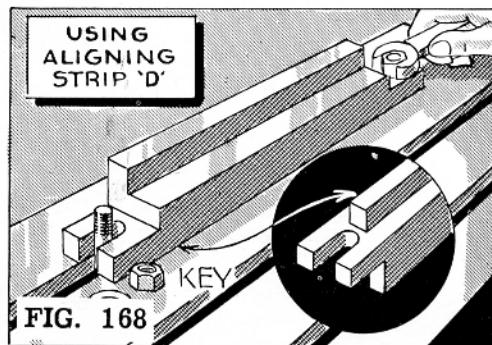

FIG. 168
6. Place the strip over the bolts and onto the table with the tongues in the table slot. If the strip shown in Fig. 168 is used, it is placed directly on the table and aligned with the tongue in the same manner as the previous strip.
7. Place the washers and the nuts on the bolts. In the case of Fig. 168, move the bolts into the open lug slots, and tighten the nuts securely. The alignment of the strip can be tested with an indicator if this should be necessary.